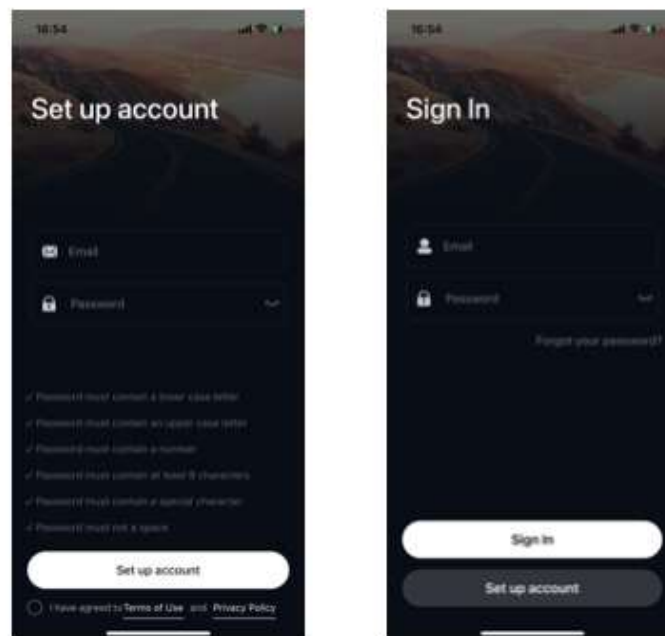

Figure 3
1. On the log in screen of the MegaRing+ APP, there is a Registration Link for you to create a secure login (see **Figure 3**)
The account registration login screens are shown in **Figure 3**.